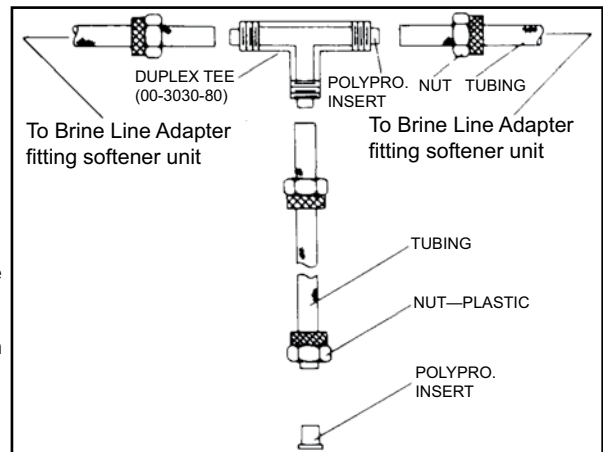

Figure 17. Brine system assembly.
1. Cut off approximately two inches of brine tubing, then attach the tubing to the brine safety valve. See Figure 17.